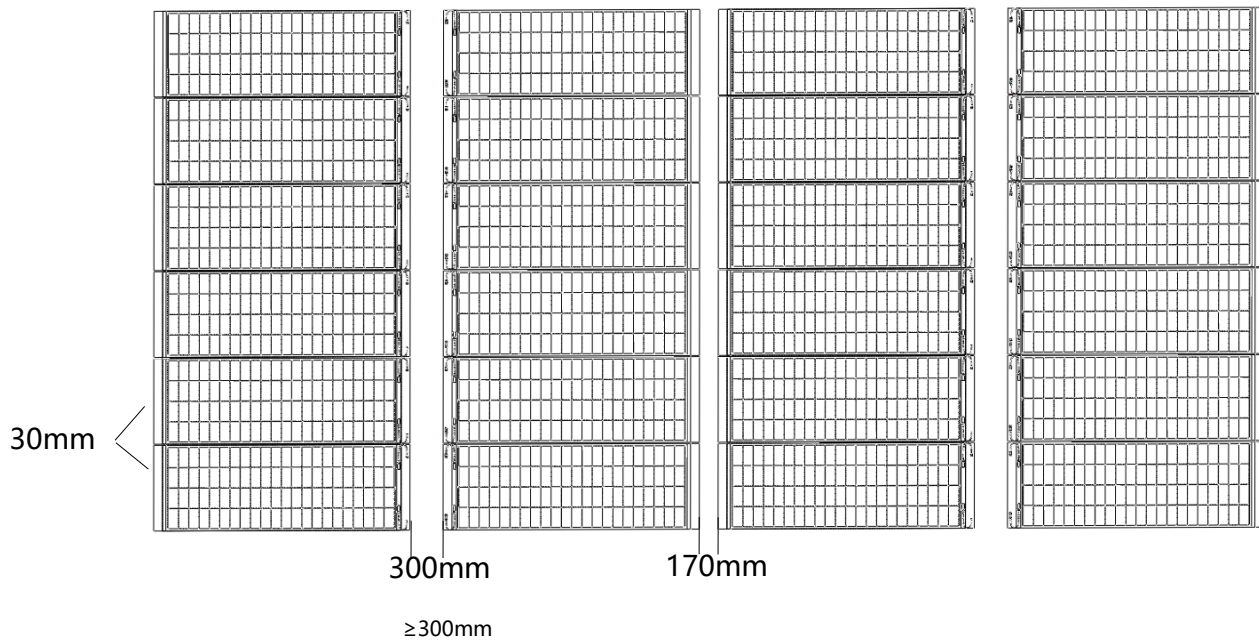

Figure 12
- The distance between two adjacent Galaxy* lightweight products is 30 ± 10 mm. A 300mm construction access channel is reserved between two rows of Galaxy* lightweight products on the junction box side. A 170mm construction access should be reserved on the tail side of the product. (Figure 12).